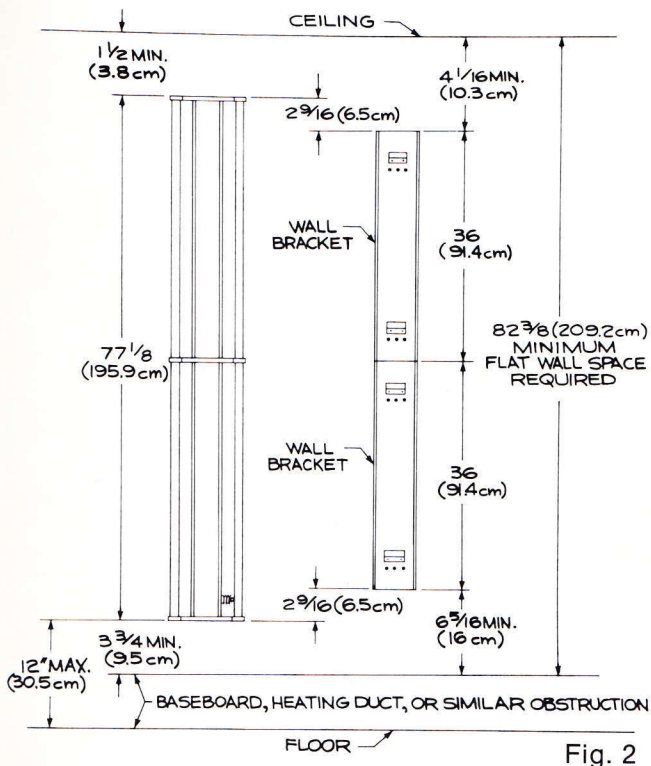

Fig. 2
## MINIMUM DISTANCES (Refer to Figure 2)
- Step 1:** Determine from figure 2 the proper distance from the bottom of the wall bracket to the floor. Keep in mind the minimum and maximum allowable distances.